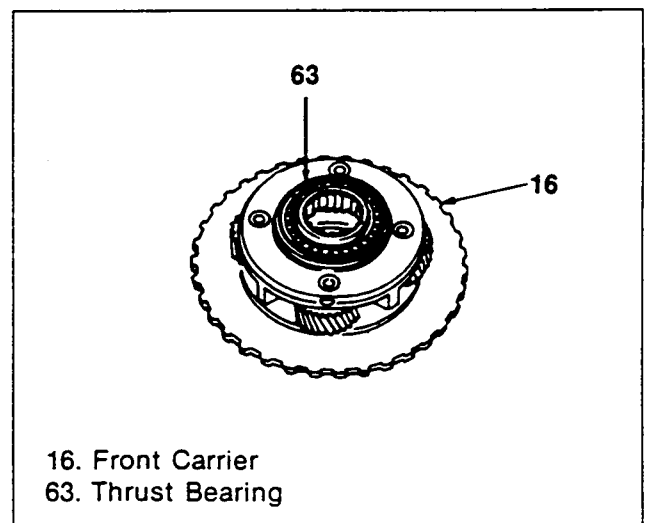

Figure 263. Front Carrier Installation (1)
Front Carrier (Figures 263 and 264)
1. Apply Vaseline to the thrust bearing combined with the thrust washer and attach it into the front carrier (figure 263).